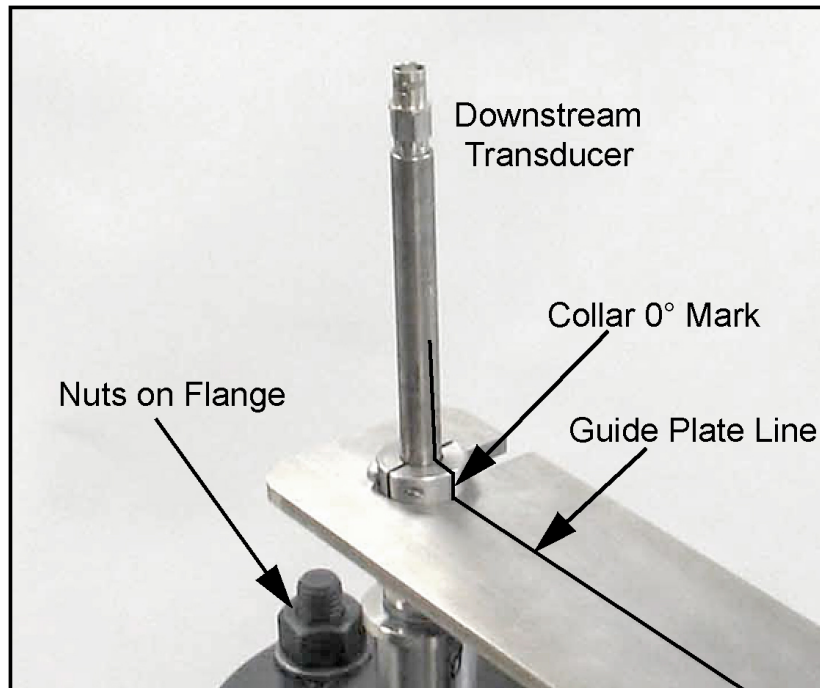

Figure 12: Locking Collar 0° Mark Aligned with Guide Plate Line
5. Check to see if the 0° mark on the side of the locking collar is aligned with the line on the guide plate. If they are not aligned, then loosen the nuts on top of the barrel flange and rotate the transducer assembly until the two lines are aligned (see Figure 12 below). Then, re-tighten the nuts.